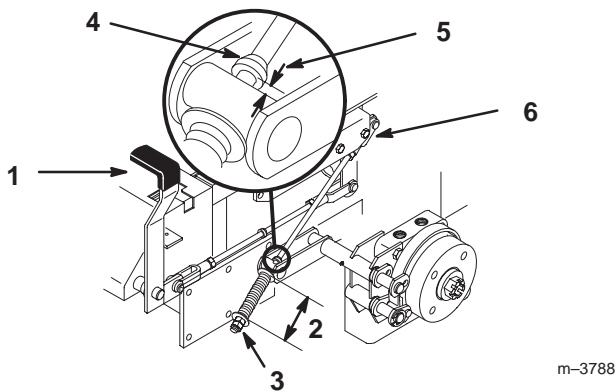

Figure 63
2. Measure the length of the spring. Measurement should be 2-3/4 inch (70 mm) between washers (Fig. 63).
3. If adjustment is necessary, loosen the jam nut below the spring and tighten the nut directly below the yoke (Fig. 63). Turn the nut until the correct measurement is obtained. Tighten the two nuts together and repeat on opposite side of unit.
- A. Measure the distance between the trunnion roller and the collar on brake rod. The measurement should be 3/16-1/4 inch (5-7 mm) (Fig. 63).
6. If adjustment is necessary, loosen the jam nut directly below the yoke. Turn the bottom rod until the correct measurement is obtained (Fig. 63). Tighten jam nut at yoke